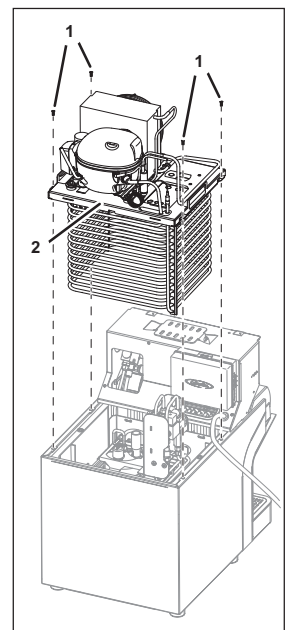

Fig. 66
6. Remove the fastening bolts (Fig. 66/1) of the refrigeration system support (Fig. 66/2).
7. Lift the refrigeration system support (Fig. 66/2) up out of the unit.
8. Position the new refrigeration system support (Fig. 66/2) within the unit.
9. Attach the refrigeration system support (Fig. 66/2) within the unit with the fastening bolts (Fig. 66/1).